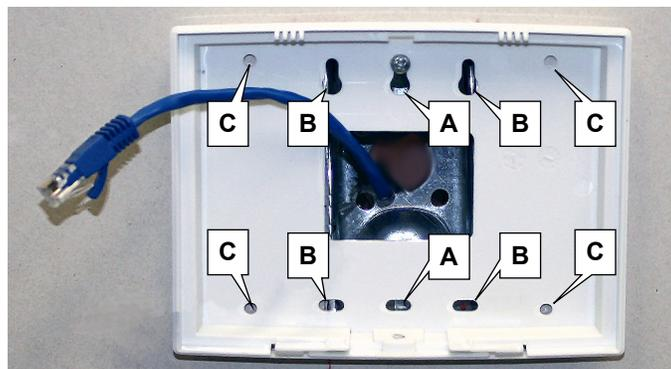

Fig. 3: Rear housing mounting holes for single-gang (A) and double-gang (B) electrical boxes, and four all-purpose holes (C)
2. Using the rear housing as a mounting template, secure the unit to a wall or other flat surface using the hardware provided (see page 4 for printed template). Shown in Fig. 3, the rear housing includes two mounting holes for single-gang (A) and four mounting holes for double-gang (B) electrical utility boxes, as well as four all-purpose holes (C) for mounting to drywall or other surfaces (use minimum #6 screws suitable for the surface).